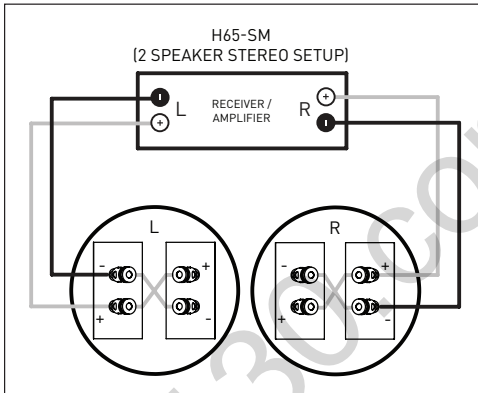

Fig. 5b
**Two Speakers** (Fig. 5b): Connect one speaker at a time to the left and right channels of your receiver/amplifier. First, convert the Right speaker to Mono: Using a short piece of cable, connect the Right red (+) speaker terminal to the Left red (+) speaker terminal and the Right black (-) speaker terminal to the Left black (-) amplifier terminal. Then ...